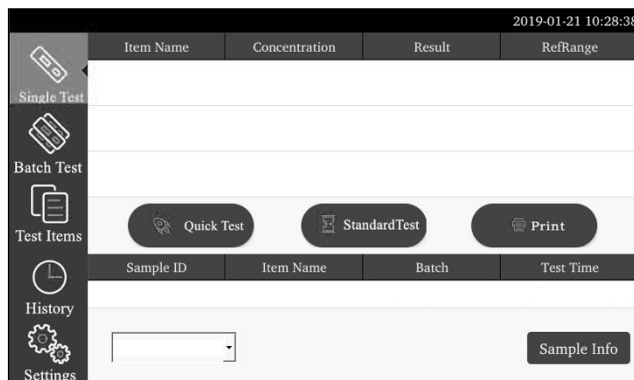

Fig 39
Step 2: Click “ **Single Test** ” to switch to the interface as Fig 39.